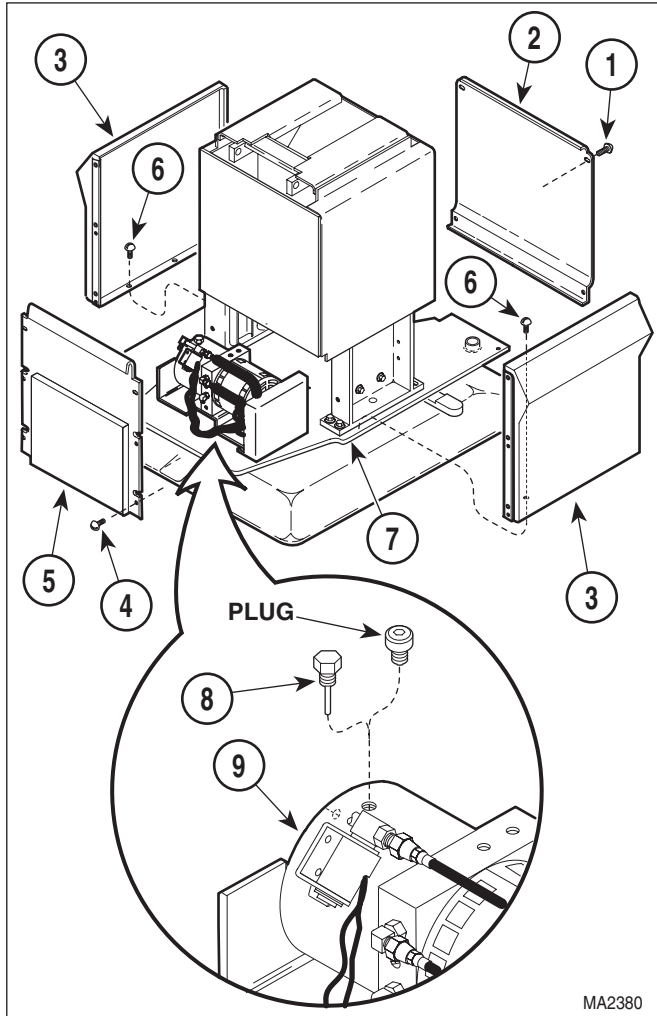
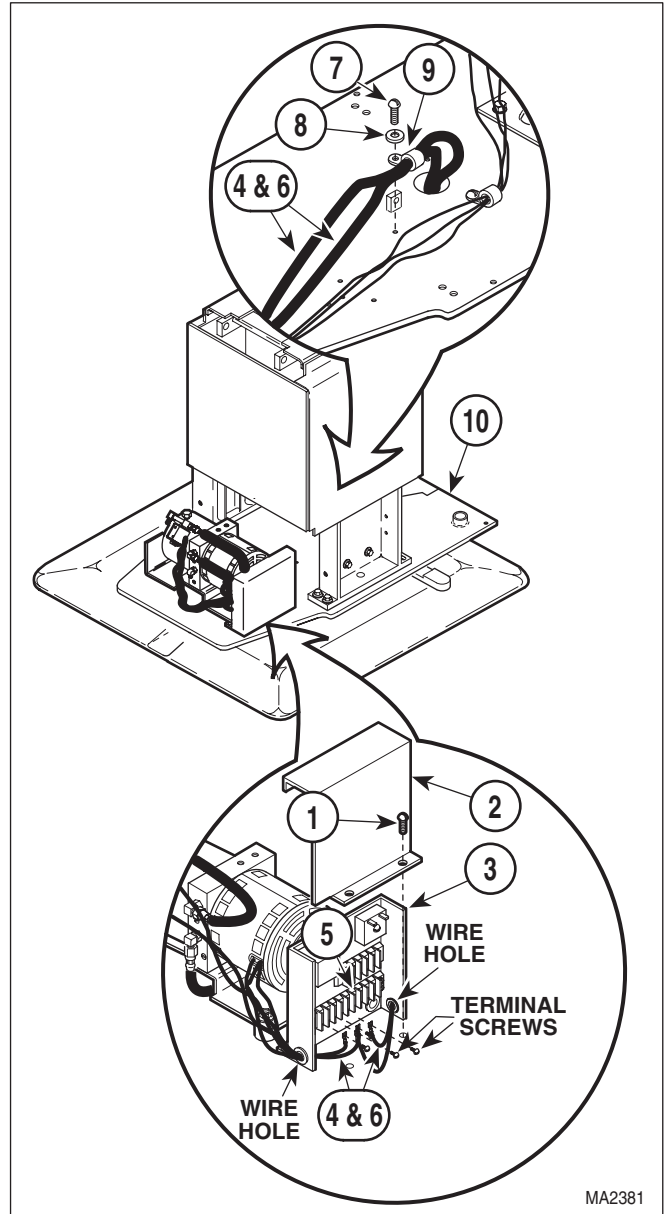

Figure 4-41. Shrouds Removal / Installation
Figure 4-42. Wires Disconnection / Connection
- (1) Raise TABLE UP function all the way up.
- (2) Unplug table power cord from outlet.
- (3) Remove motor cover assembly (Refer to para 4.2).
- (4) Remove four screws (1, Figure 4-41) and front outer shroud (2) from left and right hand outer shrouds (3).
- (5) Remove four screws (4) and back outer shroud (5) from left and right hand outer shrouds (3).
- (6) Remove six screws (6) and left and right hand outer shrouds (3) from platform base weldment (7).
- (7) Remove brake (Refer to para 4.29).
- (8) Remove filler cap (8) from motor pump (9).
- (9) Install plug (provided in bearing replacement kit) on motor pump (9).
- (10) Remove two screws (1, Figure 4-42) and control cover (2) from control panel (3).
- (11) Loosen three terminal screws; then tag and disconnect three wires (4) from terminal block (5).
- (14) With help of an assistant, raise table to its upright position.
- (15) Connect eight wires (6, Figure 4-42) to terminal block (5) and secure by tightening eight terminal screws.
- (16) Connect three wires (4) to terminal block (5) and secure by tightening three terminal screws.
- (17) Secure wires (4 and 6) to platform base weldment (10) with cable clamp (9), washer (8), and screw (7).
- (18) Install any cable ties which were removed during removal.
- (19) Install control cover (2) on control panel (3) and secure with two screws (1).
- (20) Remove plug from motor pump (9, Figure 4-41).
- (21) Install filler cap (8) in motor pump (9).
- (22) Install brake (Refer to para 4.30).
- (23) Adjust brake (Refer to para 4.29).
- (24) Install left and right hand outer shrouds (3, Figure 4-41) on platform base weldment (7) and secure with six screws (6).
- (25) Install back outer shroud (5) on left and right hand outer shrouds (3) and secure with four screws (4).
- (26) Install front outer shroud (2) on left and right hand outer shrouds (3) and secure with four screws (1).
- (27) Install motor cover assembly (Refer to para 4.2).